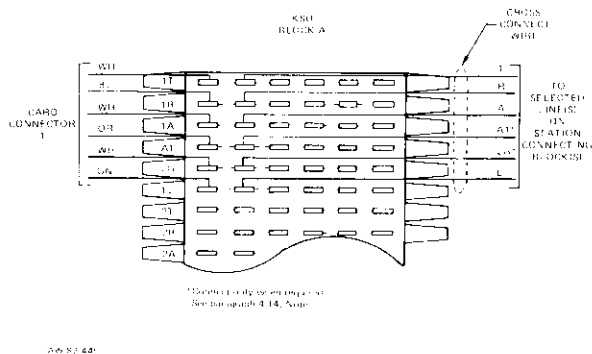

Figure 10: Connecting Details, Line KTU to Multibutton Station
4.14 On KSU connecting block A, or on the KSU expansion block on the MDF, locate the T, R, A, A1, LG, and L terminals associated with the card connector for the line card KTU. Cross-connect the T, R, A, A1, LG, and L terminals to the corresponding terminals for the selected line key on the assigned station connecting block. An example of this cross-connection is shown in Figure 10.